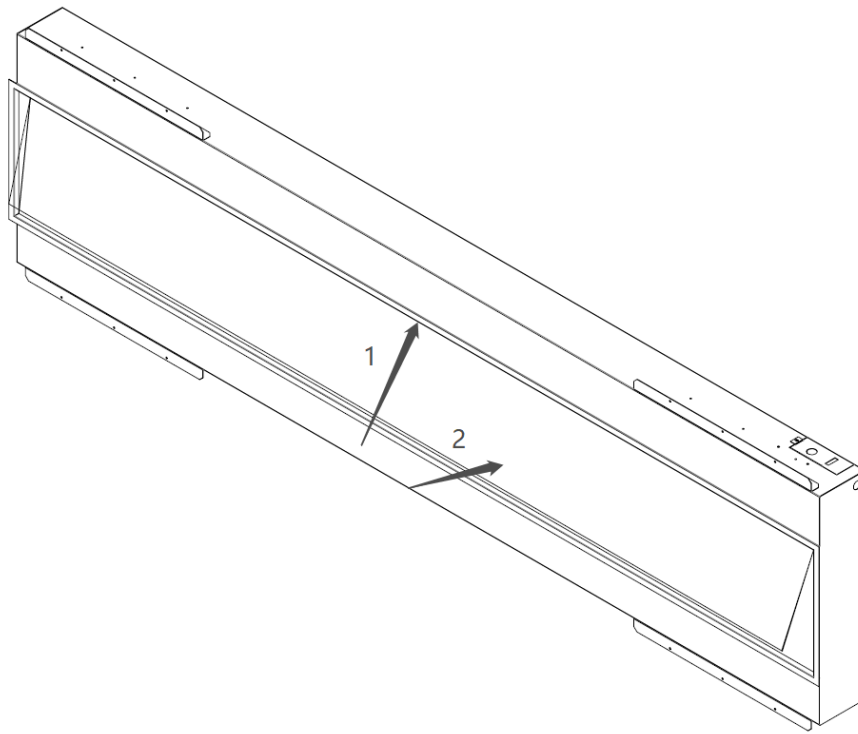

Figure 1.1
3. Swing the bottom edge of the glass in to the unit. See Figure1.1.